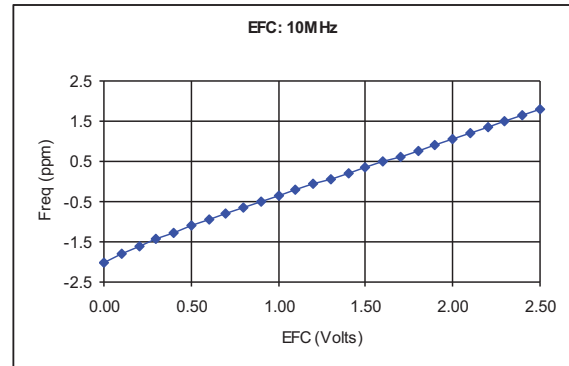

Figure 6
- b. Electronic Frequency Control (EFC): This option offers frequency adjustment with input voltage at pin #1. The EFC is positive and monotonic as shown in Figure 6. This option will allow the end user to adjust the output frequency closer to the nominal frequency or to correct for long term aging. A low noise internal voltage reference (Vref) is offered with this option for biasing a voltage divider resistor network or DAC to control the EFC input. Using a noisy voltage reference to control the EFC input can degrade phase noise or ADEV performance.